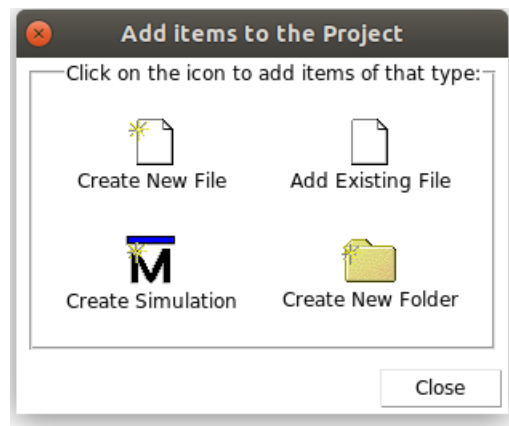

Figure 2: Add files prompt.
4. You should be prompted with the window shown in Figure 2. For this tutorial, you are provided with some SystemVerilog files, for this reason, select **Add Existing File**